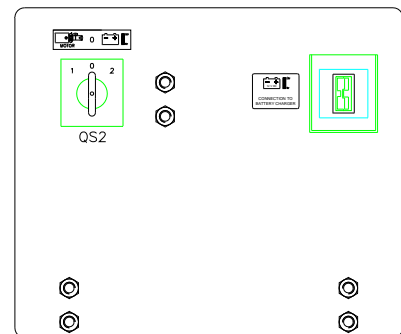

Fig.5
- Before moving the slab carrying trolley turn the selection switch “QS2” (Fig.5) to “0” and disconnect the battery charger “3” (Fig.1) from the mains and from the slab carrying trolley (if connected).
- Position the selector switch “QS2” (Fig.5) on “1” to connect the battery “10” (Fig.1) to the electrical system of the slab carrying trolley.
- When finished using the trolley, position the selector switch “QS2” (Fig.5) on “0”.
- Ensure that the selection switch "QS2" (Fig.5) is on zero.
- Turn the selection switch "QS2" (Fig.5) to "2" to start the battery "10" (Fig.1) recharging cycle. In this condition the ORANGE and RED pilot lights are on.
**WARNING:** Before starting any maintenance or cleaning operation of the slab carrying trolley, set the selection switch “QS2” (Fig.5) to zero and disconnect the electronic battery charger “3” (Fig.1) from the mains and from the slab carrying trolley (if connected).
The selector switch "QS2" (Fig.5) is positioned on "0" or "2".	Turn the selector switch "QS2" to "1".
The selector switch "QS2" (Fig.5) is in position "1" or "0".	Position the selection switch "QS2" on "2".